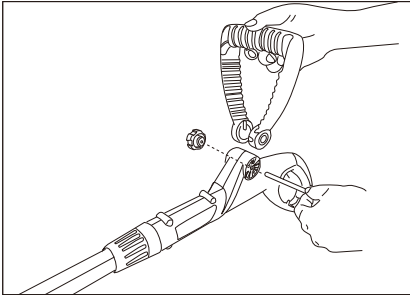

Fig 2
3. Insert the bolt from the right through the opening. Ensure that the bolt head sits properly in the hex-shaped opening in the support and secure the connection tightening the knob (Fig 2, 3).